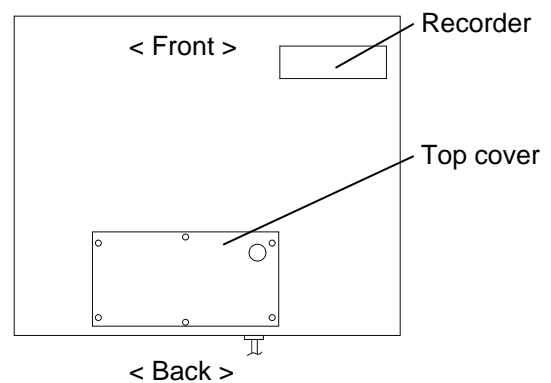

Fig. 3
9. Remove the top cover of the freezer by unscrewing 6 screws. Fig. 3